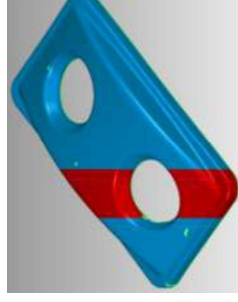
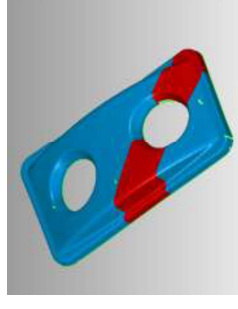

Figure 4 - Initial Selection
Figure 5 - Result of Selection
- Rotate the object around to view the other side of your selection. Notice that **Select Through** causes the current selection tool to affect all areas within the selection boundary, not just those visible on screen, see **Figure 4** and **Figure 5**.